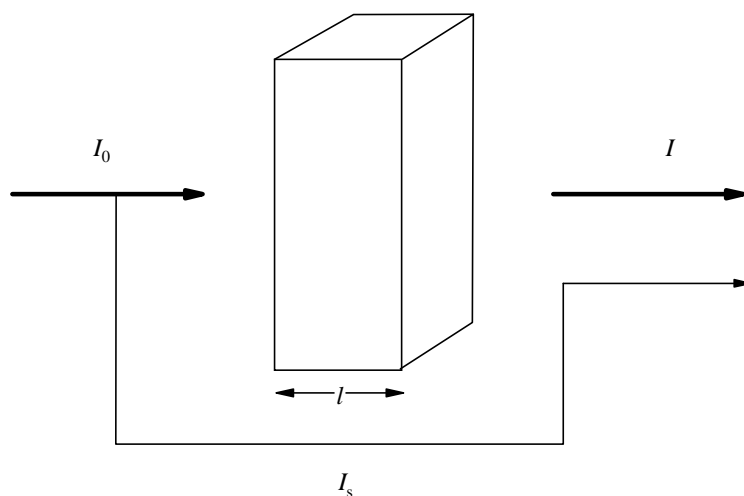

Figure 2
The absorption is measured with a single beam spectrophotometer. However 5 % of the light, the so-called stray light  $I_s$ , strikes the detector directly (see Figure 2).
**2.3**  $I_S = 0.05 \times I_0$      $A = \log \frac{I_0}{I + I_S}$       (see Figure 2)